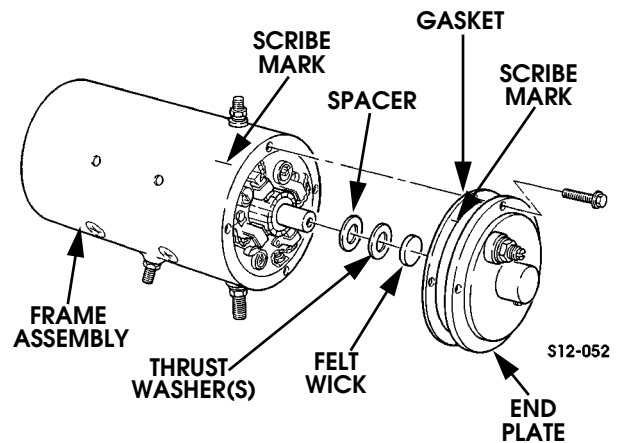

Figure 12-28: Starter End Plate Installation
19. Saturate felt wick with engine oil and install in end plate (Figure 12-28).